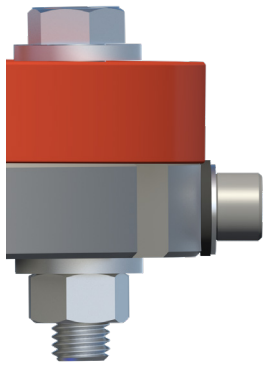

FIGURE 57
3.2.10) Lock the valve cartridge assembly in place by cross-tightening the Allen-head completion pins (**4 pins for 4"–8" installations, 6 pins for 10"–12" installations**). Tighten each until the head of the completion pin bottoms out against the flange, as seen in Figure 57. Do not over-tighten.